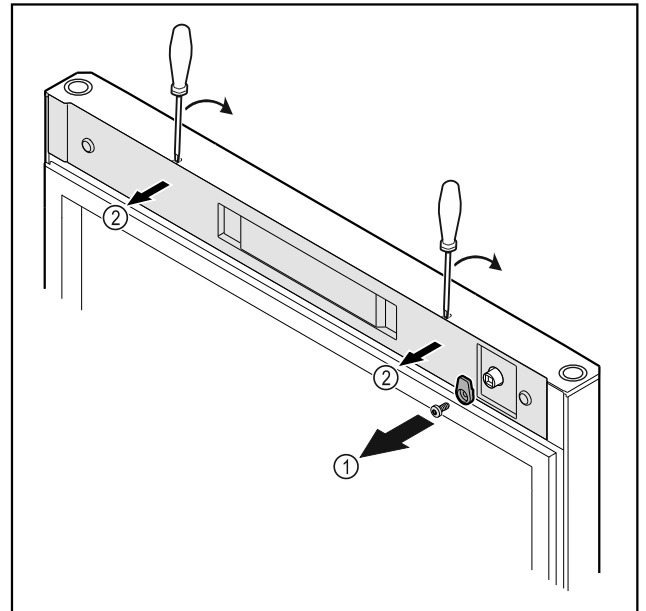

Fig. 16
- ▶ Unscrew the door latch Fig. 16 (1).
- ▶ Unlatch the cover Fig. 16 (2) with a small screwdriver and remove it.